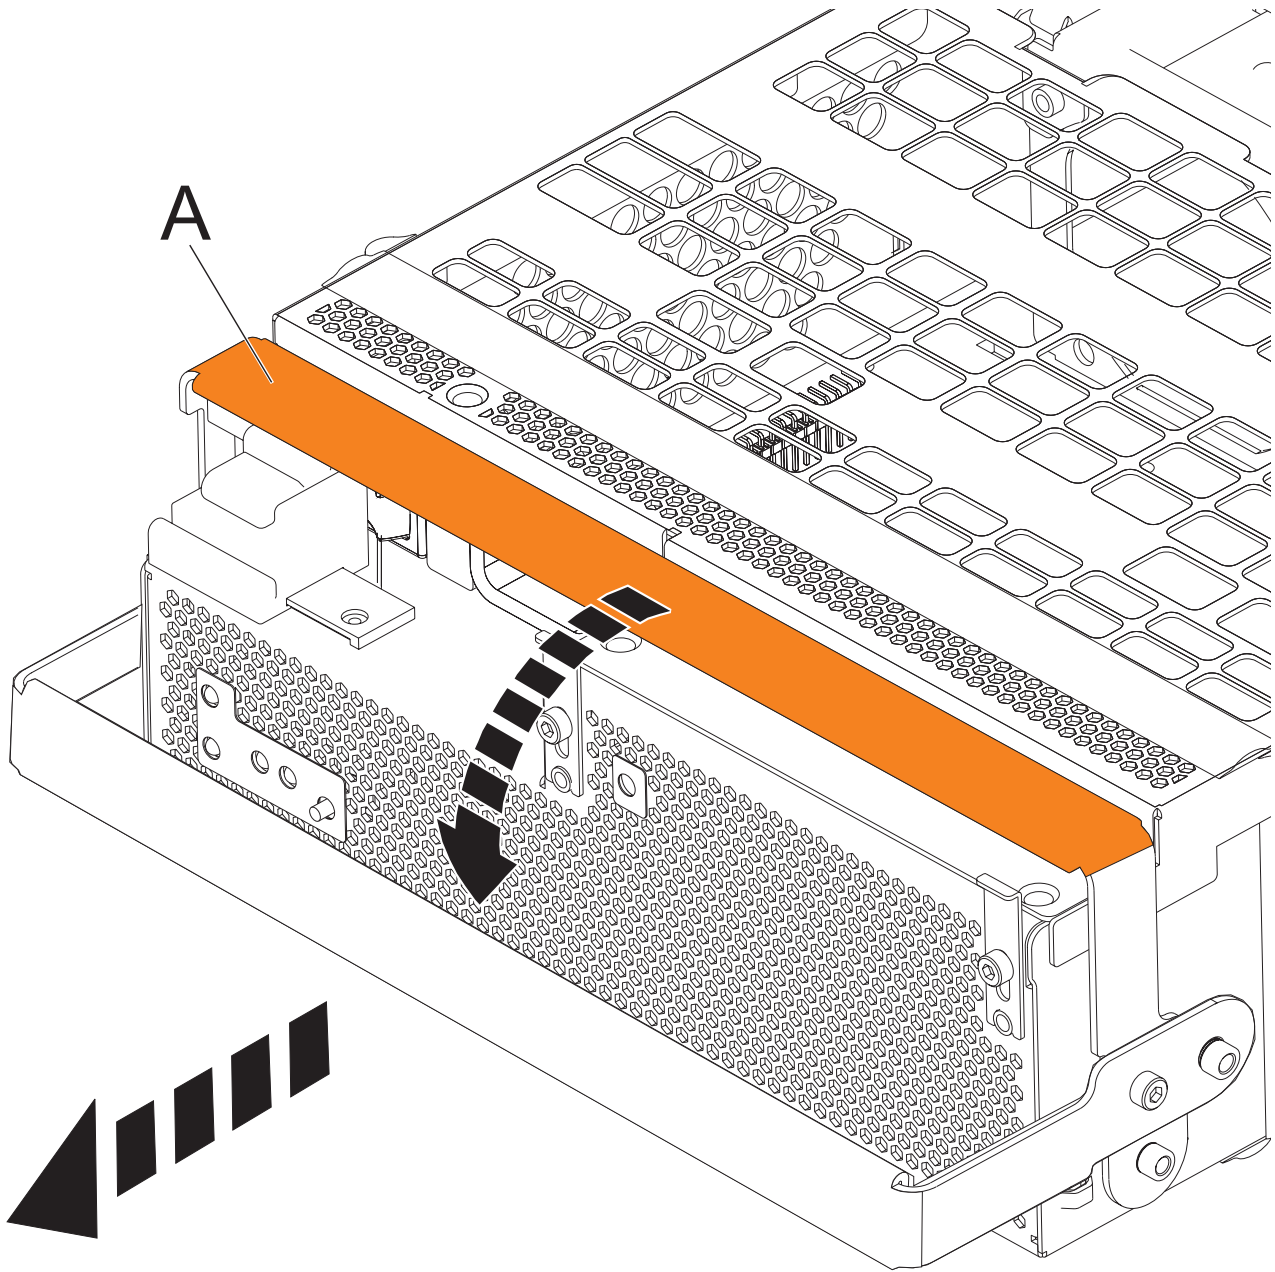

Figure 77. Remove the offline converter assemblies
- a. Pull the OCA handle (A) all the way down in the direction shown to unseat the OCA. See Figure 77 on page 96.